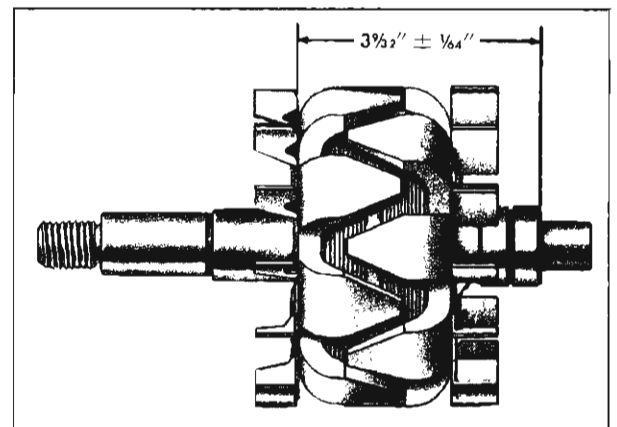

Fig. 35—Slip Ring Location Measurement
4. After alignment, press the unit onto the shaft with a suitable tool. See Figure 35 for slip ring location measurement.